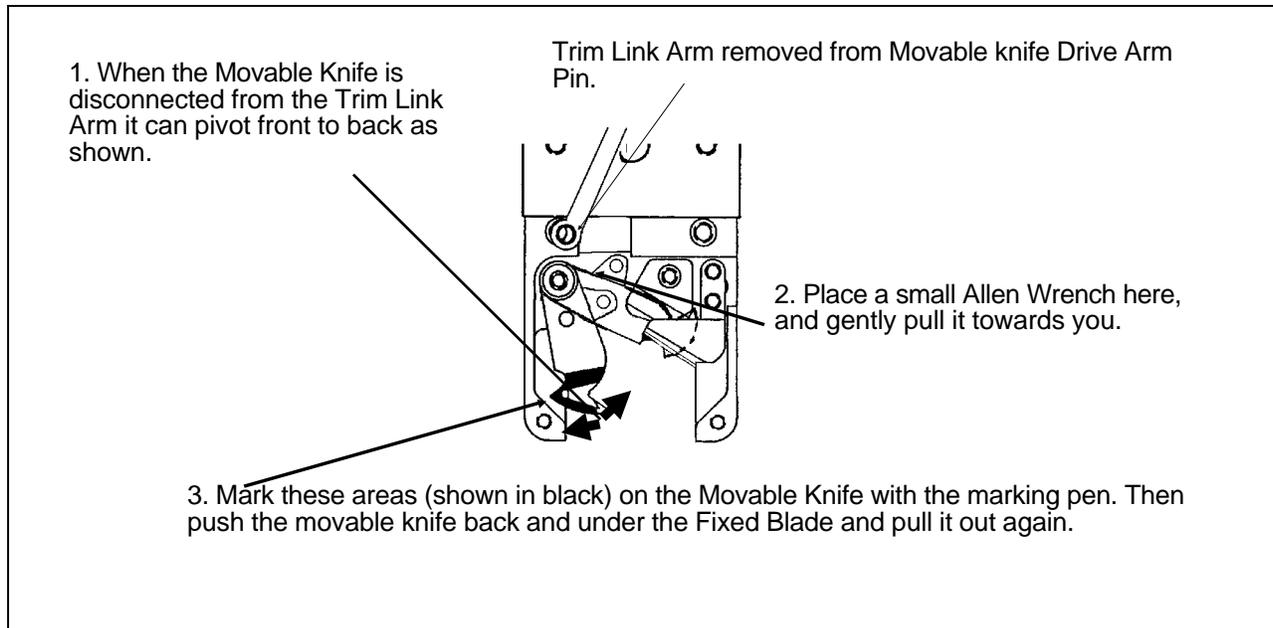

Fig 2-7
- 3 . With the Movable Knife free of the Link Arm, pull the knife towards the front of the Needle Plate Bracket with a small allen wrench hooked behind the Movable Knife. See Fig. 2-7.
- 4 . With the Black Marking Pen mark in the area of the movable knife, shown in Fig. 2-7. Then push the movable knife back to the rear of the Needle